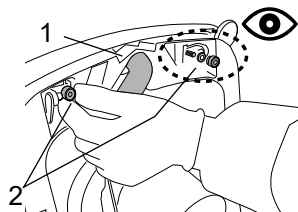

Fig.39
- Detach the suction hose from the squeegee (fig. 39, ref. 1).
- Unscrew the knobs (fig.39, ref. 2).